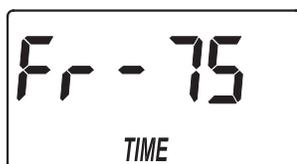

FIG. 16
1. If you completed the previous step, the aspirate time adjust screen should show in the display (See Figure 16). Otherwise, press and hold for 3 seconds the SELECT button, until the display shows "000 - -", then press the SELECT button twice to display the aspirate time adjust screen.